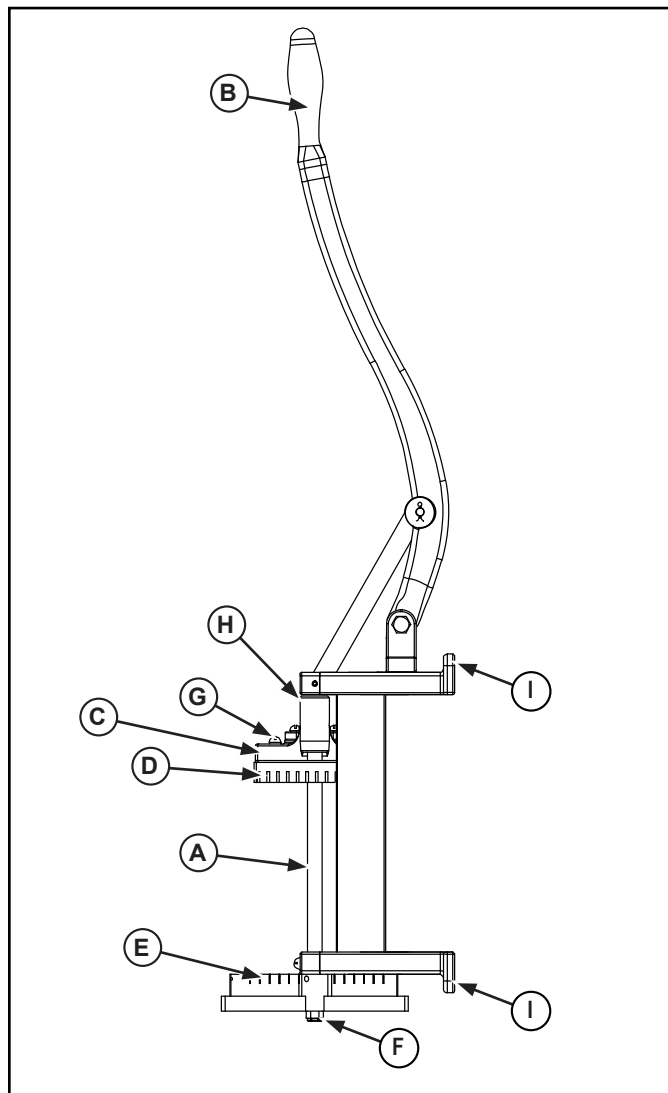

Figure 1. Features and Controls.
1. Before each use, always check for proper blade alignment. Slowly set the pusher head (D) onto the blade assembly (E). See Figure 1. They should slide together with no obstructions. If there are obstructions, verify they are a matching set. Remove the obstruction.
4. Lift the handle (B) and place the food on the blade assembly (E) with the flat side down.
1. Remove the screws (G) from the pusher head assembly (C). Remove the pusher head (D). See Figure 1.
2. Remove nuts (F) and carefully remove the blade assembly (E).
8. Install the blade assembly (E) by setting in place and securing with nuts (F).
9. Install the pusher head assembly by setting the pusher bead in place and securing with the screws (G).
10. Lubricate the guide rods (A) with mineral oil or Petro Gel after each use. Do not use cooking oil as it will become sticky and may permanently damage the equipment.
3. Install the blade assembly (E) by setting in place and securing with nuts (F).